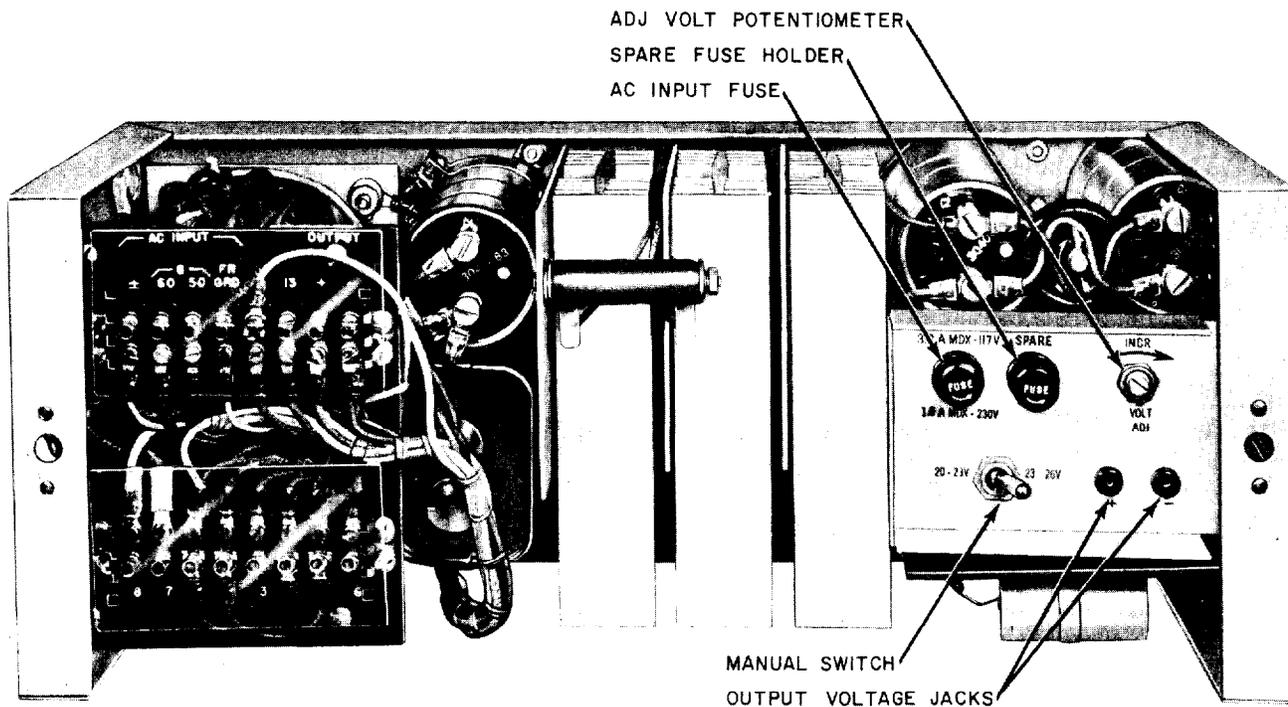

Fig. 1—KS-19231 L1 Rectifier (Cover Removed)
1.03 The KS-19231 L1 rectifier provides nominal 20 or 24 volts dc at 7.5 amperes when connected to a single-phase source of either nominal 117 or 230 volts ac (± 10 percent) at 50 or 60 Hz (± 2 percent). The KS-19231 L2 rectifier provides nominal 24, 28, or 30 volts dc at 4.0 amperes when connected to a single-phase source of nominal 117, 208, or 230 volts ac (± 10 percent) at 50 or 60 Hz (± 2 percent). A manual switch is provided for obtaining either a 20- or 24-volt nominal output for the KS-19231 L1 rectifier. The KS-19231 L2 rectifier is provided with taps on screw-type terminals for obtaining a 24-, 28-, or 30-volt nominal output. A limited range continuous output voltage adjustment control is provided for both the KS-19231 L1 (see Fig. 1) and KS-19231 L2 rectifiers.